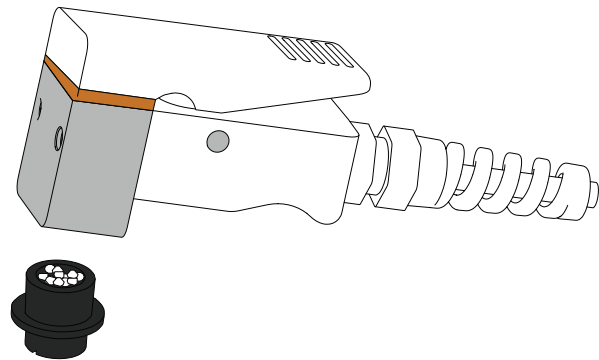

Figure 5 Filling desiccant chamber
1. Unscrew the black detachable dessicant chamber from the bottom of the aluminum sensor block (Figure 5).